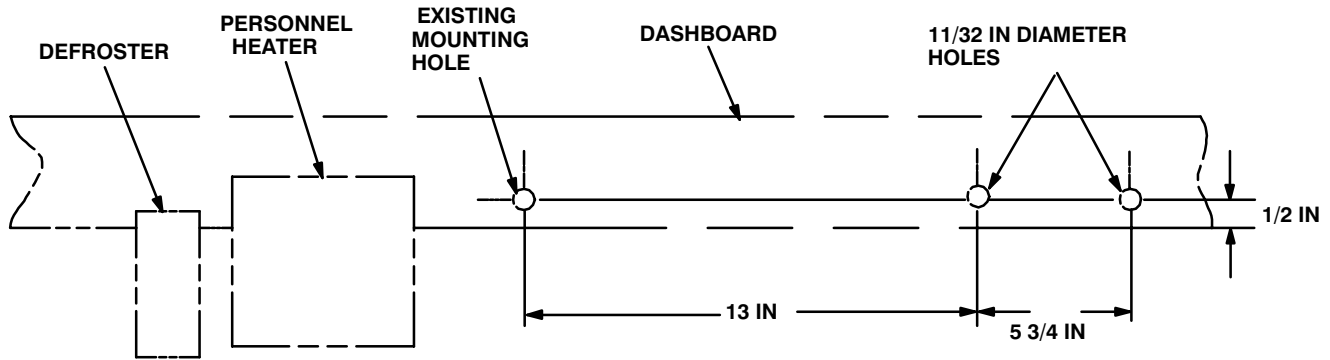

Figure 5-4 (1). Equipment Shelf and Speaker Installation: Drilling Dimensions
b. Two angle brackets (3) and existing mounting hardware.	Install and secure to existing bracket mounts below dashboard. See figure 5-4 (2).
c. Left retaining strap (6) and equipment shelf (7).	Remove a 1" square area of paint on both left and right of top and bottom of retaining strap (6) around mounting holes that mate with dashboard on top and equipment shelf (7) on bottom. Remove a 1" square area of paint on equipment shelf (7) around mounting hole that mates with bottom of retaining strap (6). Clean the paint removed areas and apply a thin coat of conductive anti-seize compound.	Tools: Electric grinder or equivalent.
d. Two retaining straps (6), two cap screws (1), four flat washers (2), two lock washers (4), and two nuts.	Install and secure to each side of equipment shelf.	Tools: 7/16 in socket and 7/16 in open/box wrench.
e. Equipment Shelf (7).	Position on top of two angle brackets (3); then align mounting holes.